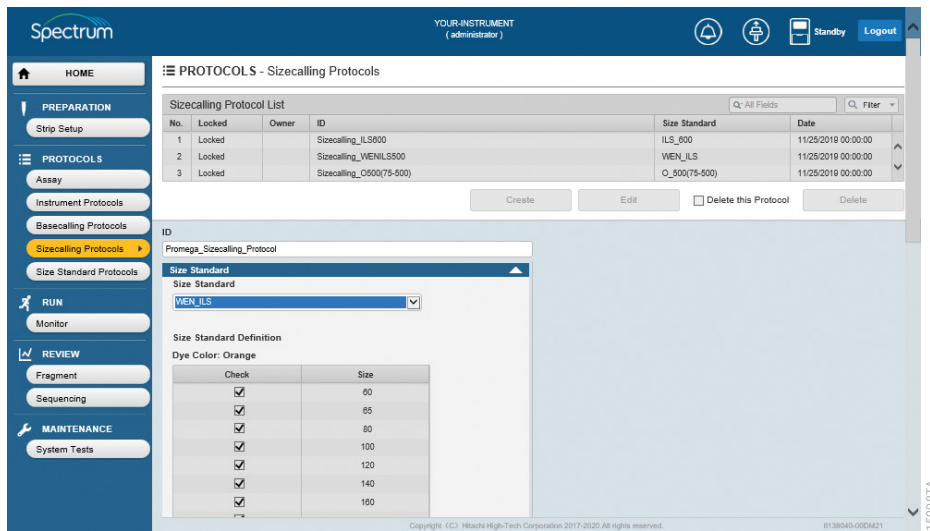

Figure 50. 'Size Standard' pull-down screen with selected size standard.
- Once selected, the sizes of the individual fragments in the size standard are listed along with a check box adjacent to each one (Figure 50).